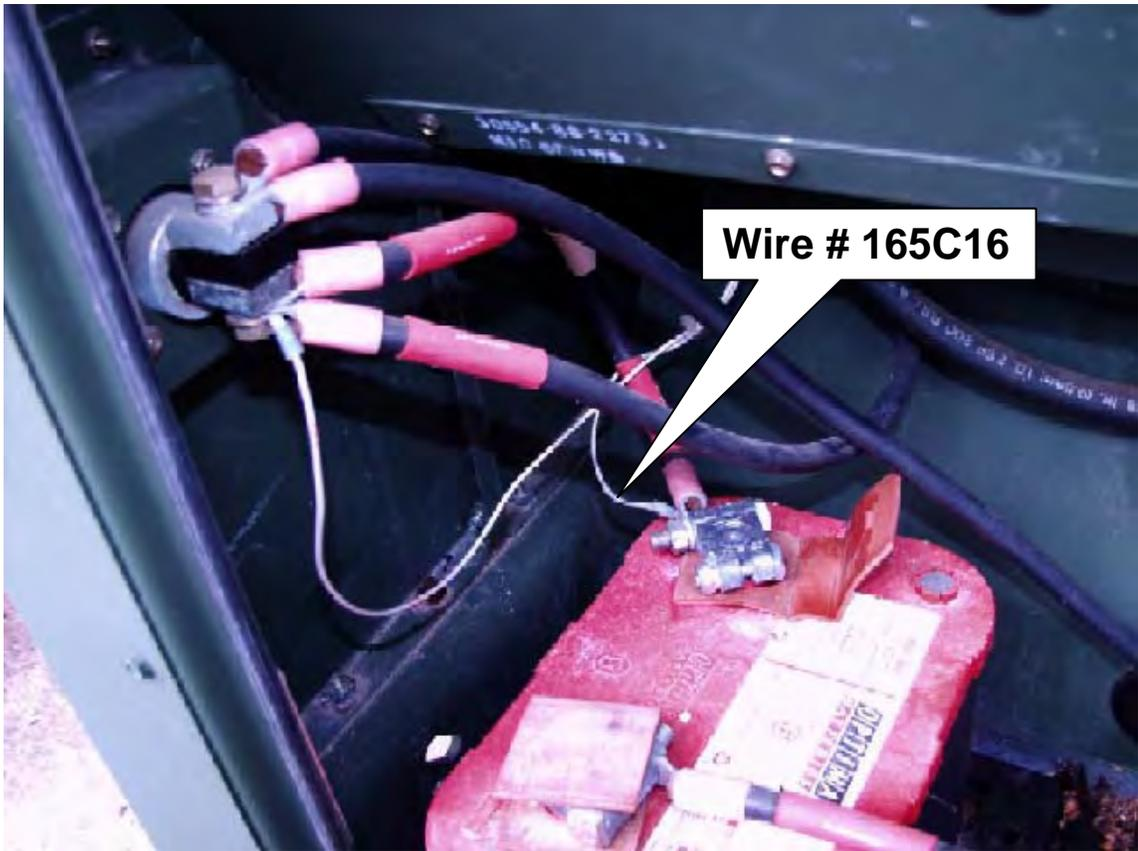

Figure 2. Battery Compartment
2. Remove wire # 165C16 from the positive terminal of batteries as shown in figure 2.